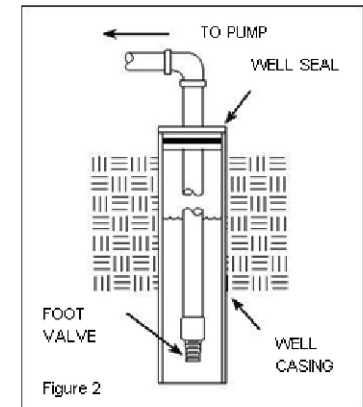

Figure 2
- Install a foot valve on the first section of pipe (Figure 2). Lower the pipe into the well. Add pipe until the foot valve is 10 feet below the lowest anticipated water level.